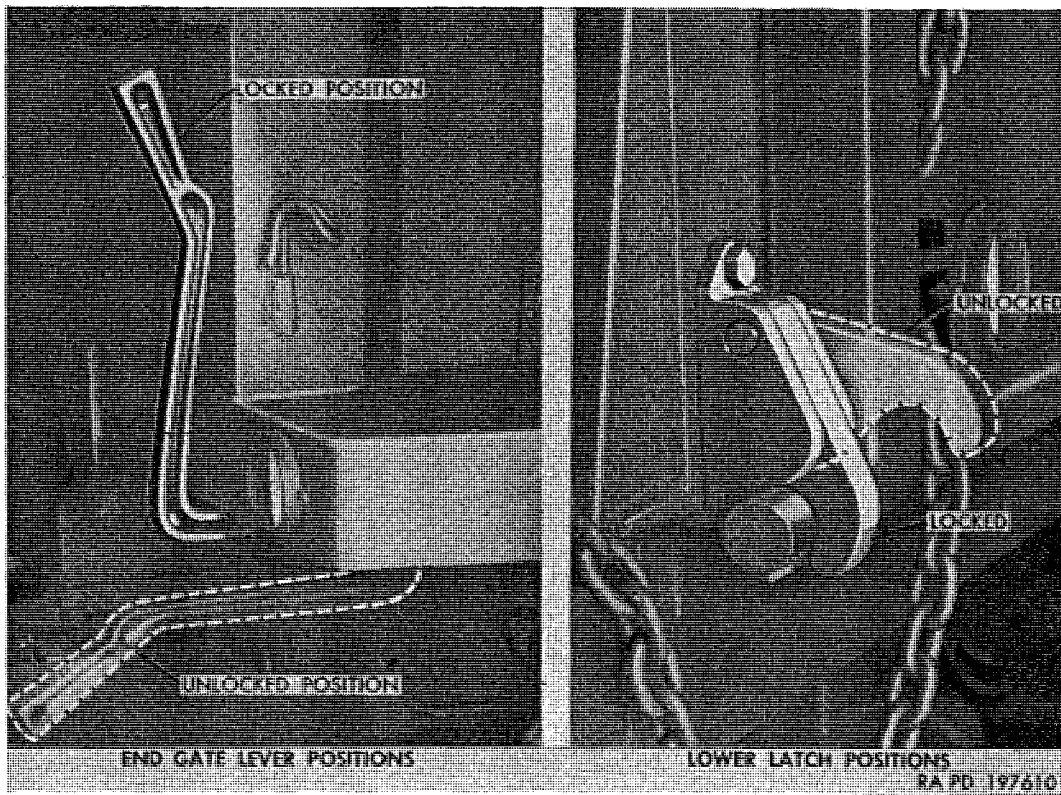
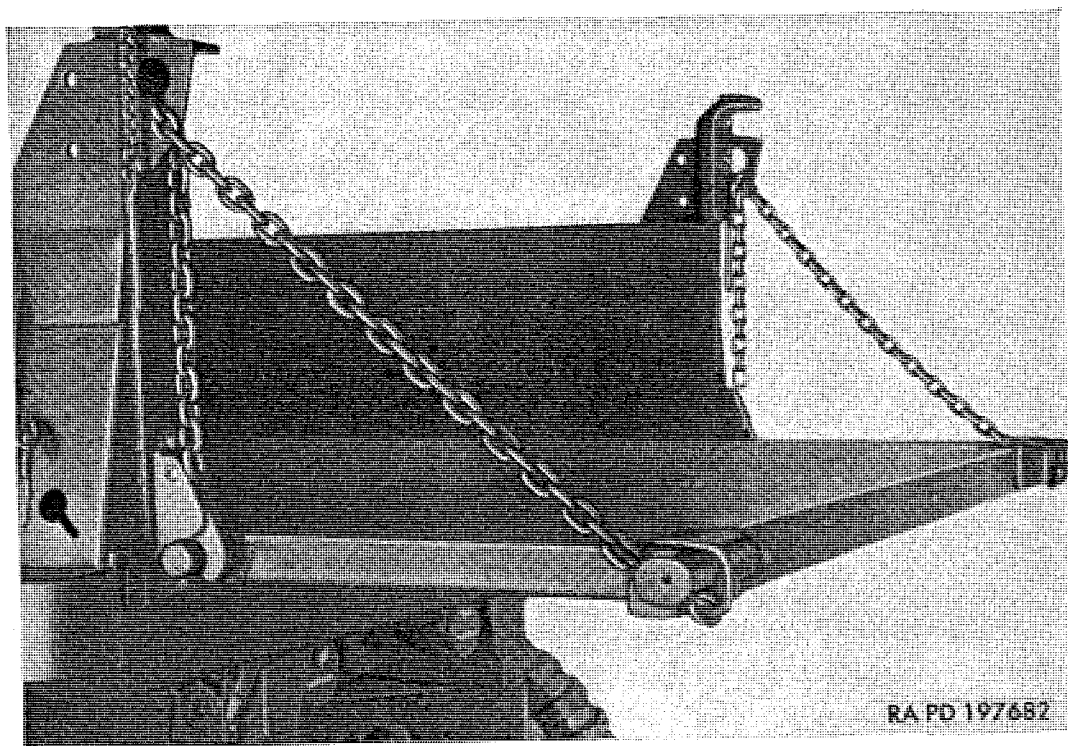
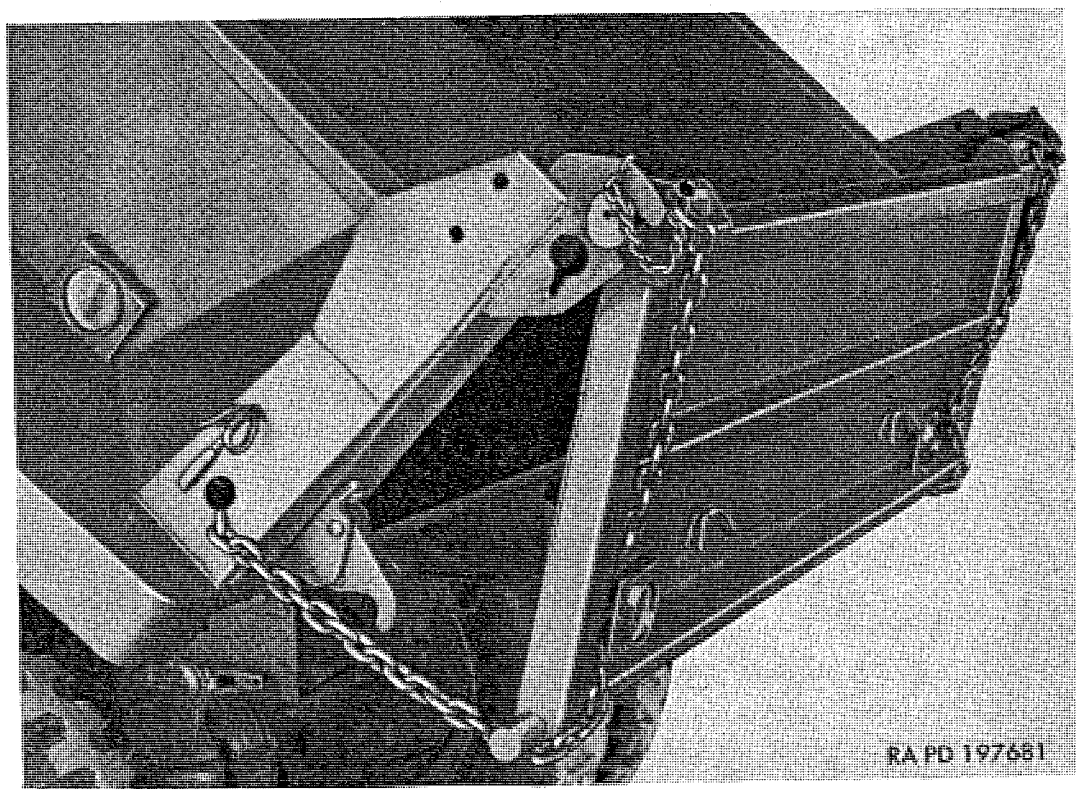

Figure 46. End gate hand lever and lower end gate latch positions.
Figure 48. End gate in horizontal position.
Figure 49. End gate in spreading or dumping position.
c. *End Gate Hand Lever.* The end gate hand lever (fig. 46), located at left front corner of body, is manually positioned to operate lower latch at each lower side of end gate.
a. *End Gate Operation.* Lower portion of end gate hinges in a latch (fig. 46), at each lower side. The lower latches are opened or closed by end gate hand lever. Upper part of end gate hinges in a latch at each side. The end gate upper pins are held in place in each upper latch with pins which are chained to each upper latch. Link chain on each side permit gate to be held in desired opened positions (figs. 48 and 49).
(1) *Closed position.* End gate hand lever (fig. 46) at left front corner of vehicle must be in upright or latched position to hold lower portion of end gate secure. Raise gate until upper
- (2) *Horizontal position* (fig. 48). Remove chained pin from upper latch on each side. Release chains on each side. Lower end gate to desired position. Hold in position with chain on each side. Each chain can be locked through hole in each upper latch.
- (3) *Spreading or dumping position*. End gate (fig. 49) can be positioned to completely open to dump load, or partially open to spread. End gate hand lever must be pushed straight down to release lower latches (fig. 46). End gate then hinges on upper latches. Opening can be varied by chain on each side. Chains can be locked into hole on each side of body.